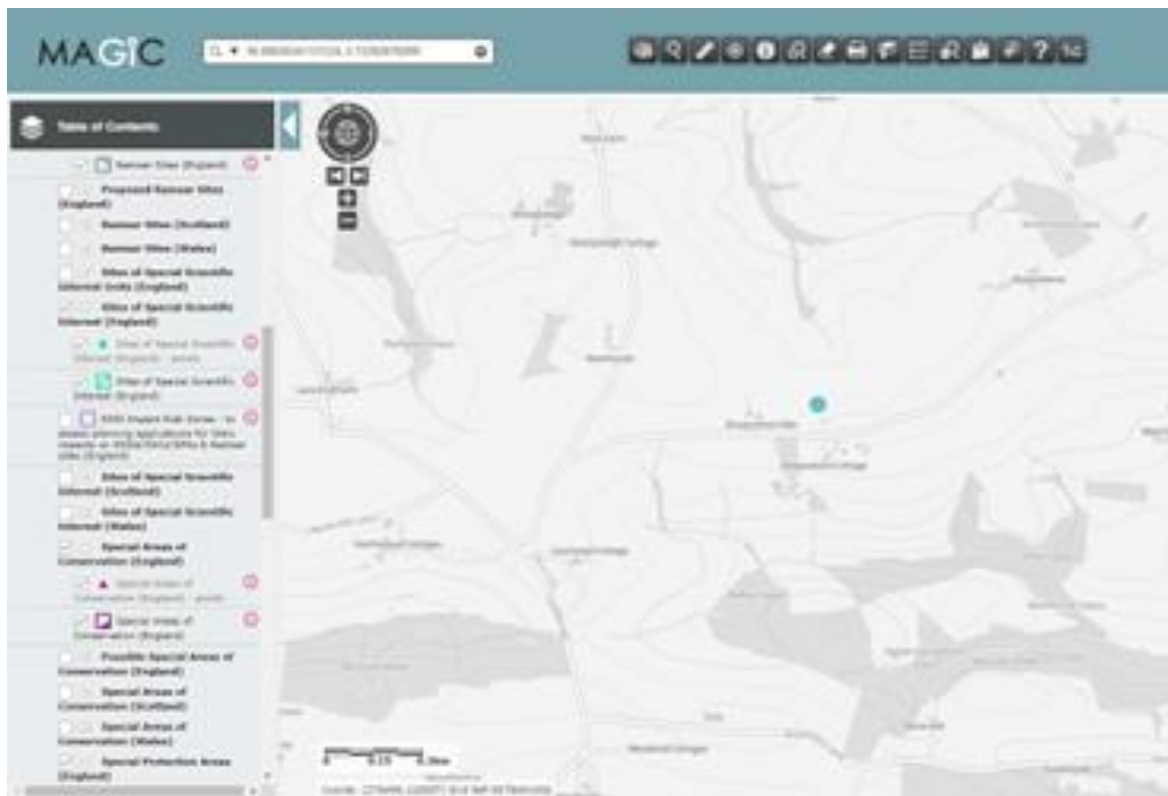

Fig. 1, magic map showing we're not in a protected area
- The nursery is not in or within 50meters of: Special areas of conservation, special protection areas, Ramsar wetland sites or SSSIs, see fig. 1